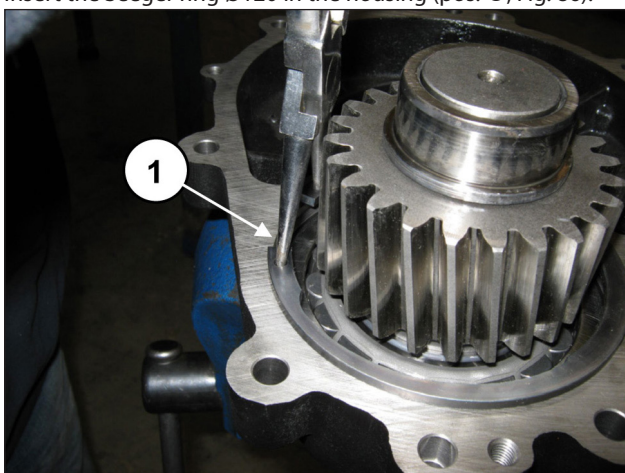

Fig. 86
Insert the Seeger ring Ø120 in the housing (pos. ①, Fig. 86).